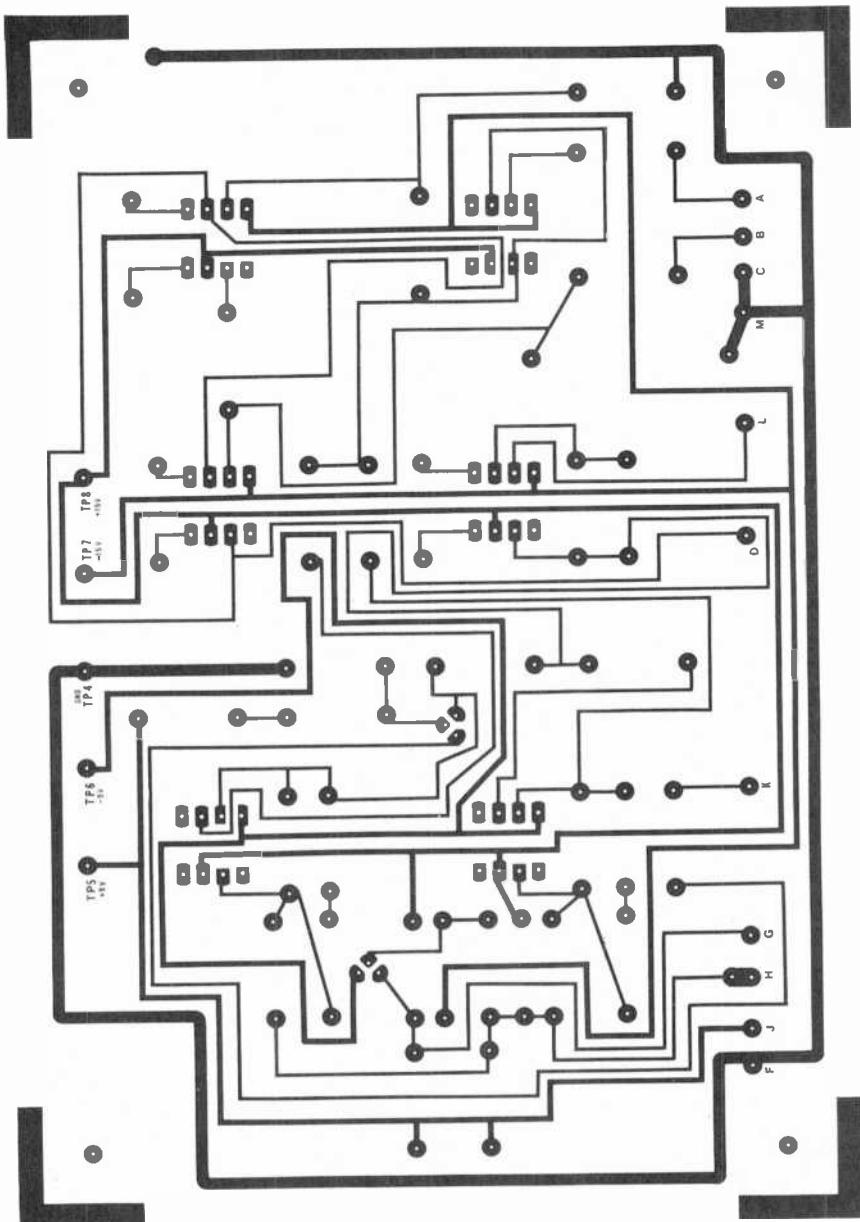

Fig. 4. Actual-size foil pattern is at top; component layout below. Lettered pads correspond to those on schematic and are used for interconnections.
**Construction.** The circuit can be built on a pc board such as that shown in Fig. 4. Be sure to obtain proper orientation of the diodes, the IC's and  $C_2$ .